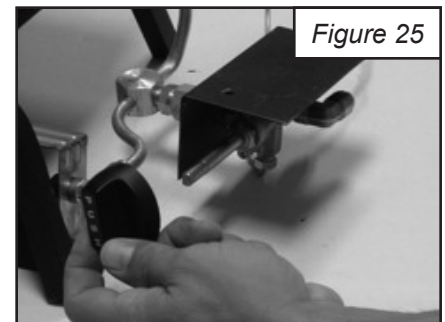

Figure 25
9. Connect control knob (Part # 1) to gas control valve stem. (See Figures 25 & 26)